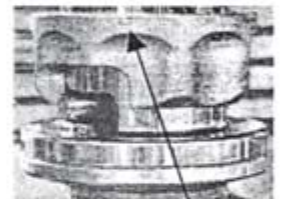

Fig. 6
4. Turn the agitator to the left so it rests on the rim of the agitator shaft as shown in fig. 6.